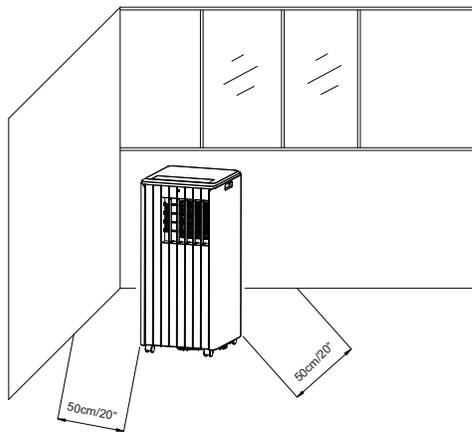

Fig.4
1.3 Install the body 1) Move the machine with installed pipe and fittings to the window, and the distance between the body and walls or other objects shall be least 50cm/20" (as shown in Fig.4).